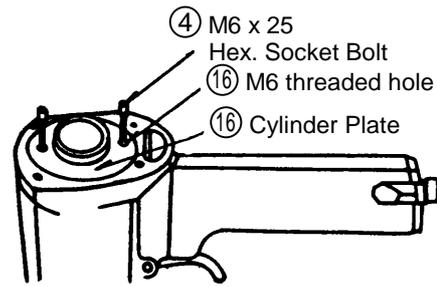

Fig. 12 Removal of Cylinder plate
- If it is difficult to remove the Cylinder Plate (16), insert two of the M6 x 25 Hexagon Socket Hd. Bolts (4) part way into the matching M6 holes on the Cylinder Plate, and pull upwards while turning. (see Fig. 12)